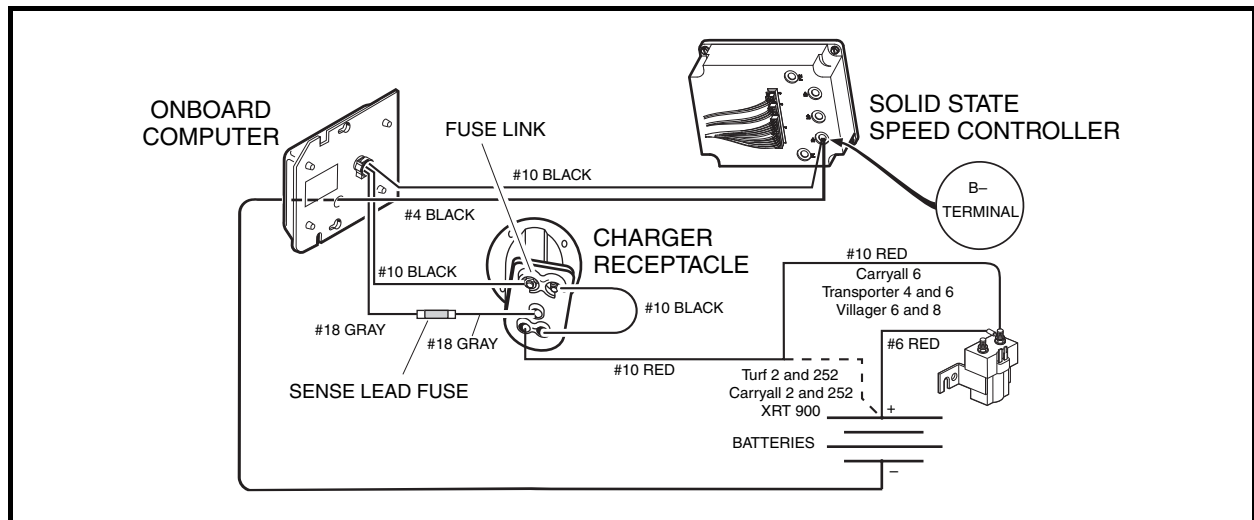
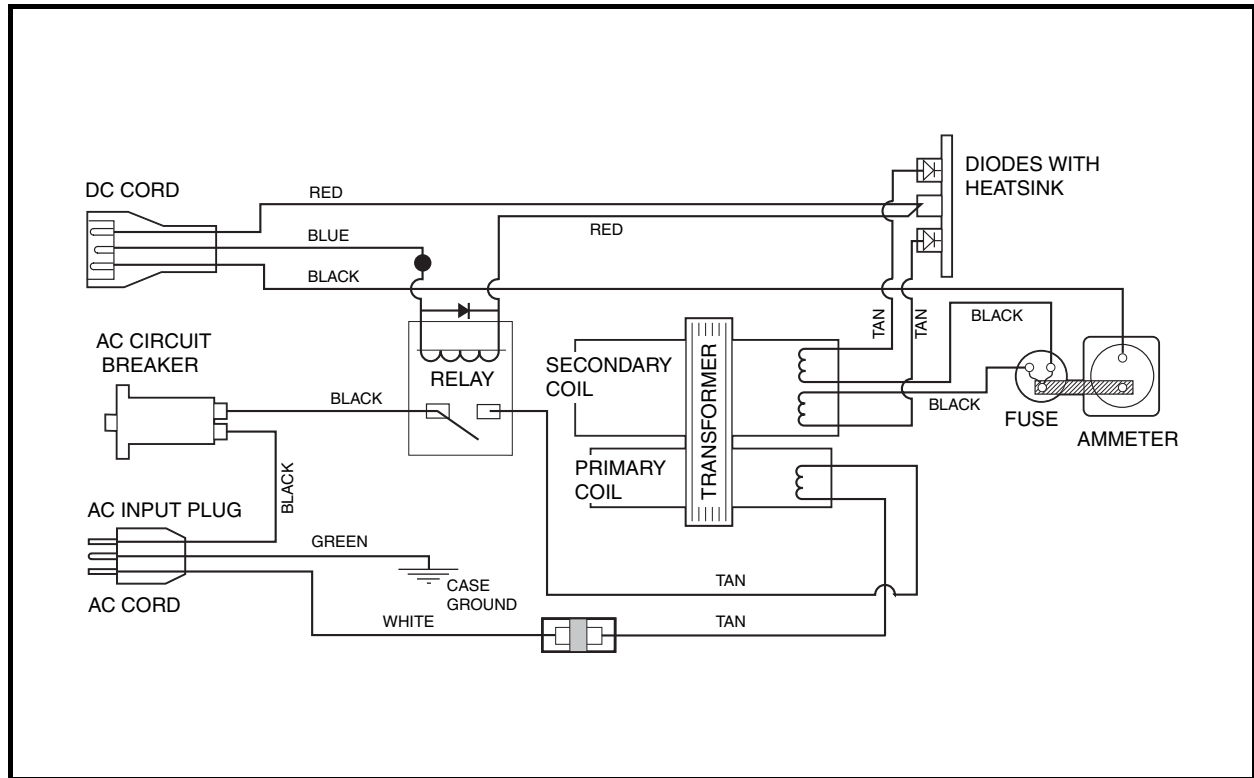

Figure 8-2 Charge Circuit
Figure 8-5 IQ Plus Battery Charger Wiring Diagram (External Charger)
If the charger works with one vehicle, but does not work with another vehicle, then most likely the problem is in the vehicle charge circuit. Check the connections between the 18-gauge gray wire from the charger receptacle, the sense lead fuse, and the 18-gauge gray wire from the onboard computer. Also check connections of the fuse link located on the charger receptacle (**Figure 8-2, Page 8-3**).
3. If the charger does not operate exactly as described above, refer to the wiring diagram and make sure that the vehicle is wired correctly (**Figure 8-2, Page 8-3**) and that the internal charger wiring is correct (**Figure 8-5, Page 8-9**).
- Knowledge of battery charger wiring and component terminology is required before attempting any repair (Figure 8-5, Page 8-9).